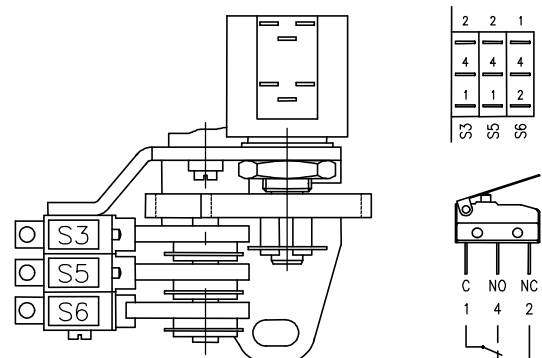

Fig.6
3.2 Position unit adjustment (Fig. 6)